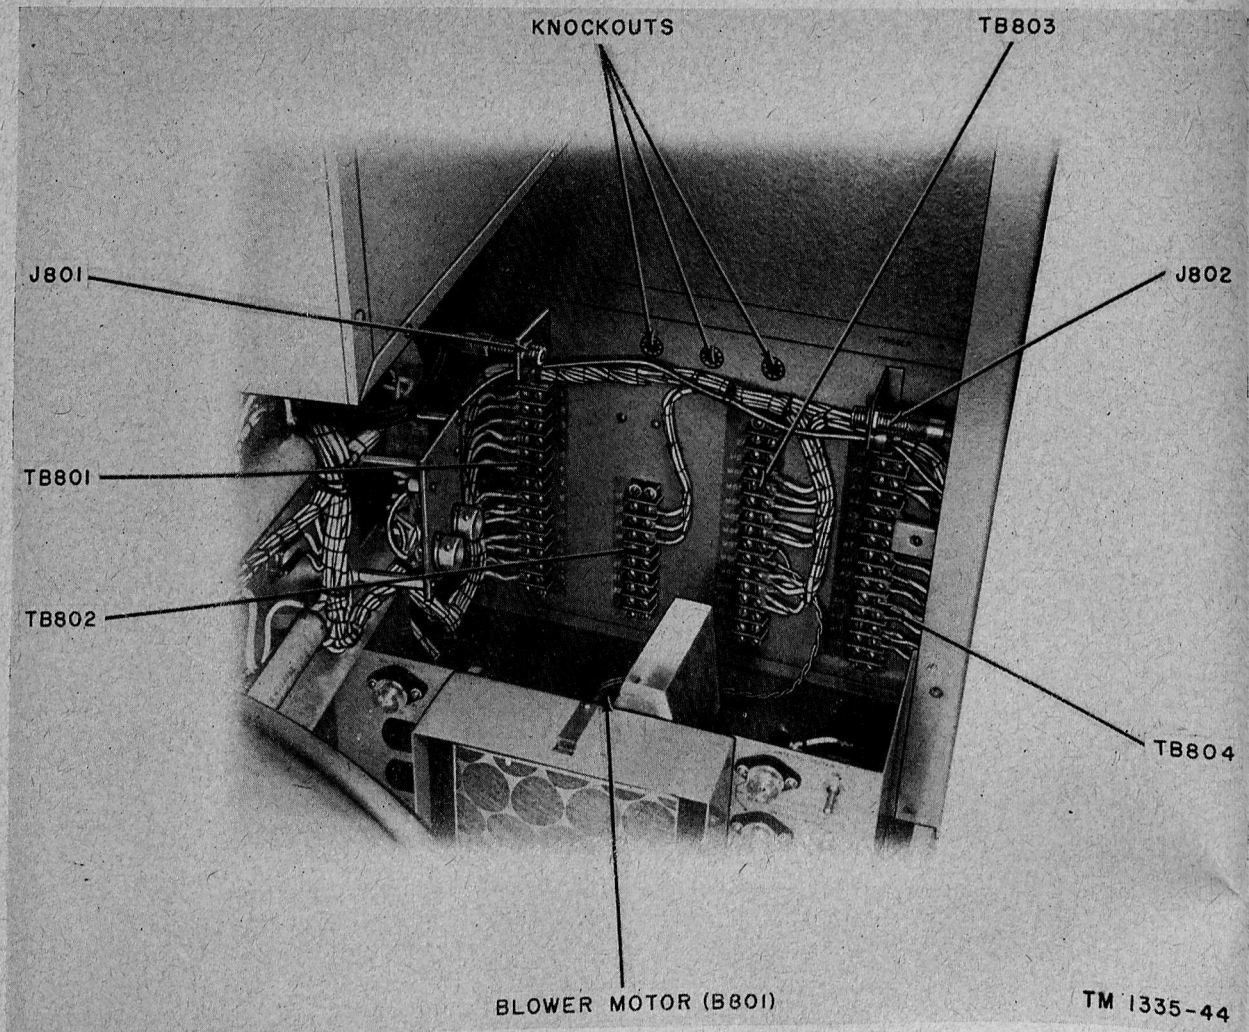

Figure 42. Terminal boards in receiver-transmitter.
- (1) Connect 14 of the 19 conductors of cable W704 to terminal board TB801 (fig. 42). Connect the remaining five conductors of cable W704 to terminal board TB802. If the indicator is mounted on the receiver-transmitter, use cable W708 instead of cable W704. Run cable W708 through the center gland on top of the transmitter and connect its 19 conductors to terminal boards TB801 and TB802, as indicated for cable W704.
- (2) Connect the four conductors of cable W703 to terminals MG6, MG8, MG9, and MG11 of terminal board TB803.